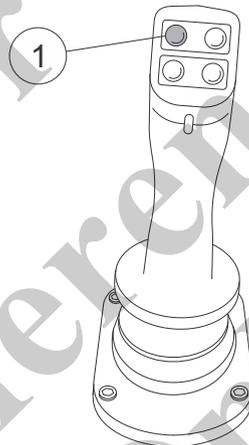

Fig. 83 Disengaging the slewing gear holding brake
- 1 Press the button (1) in Fig. 83 on the left joystick.